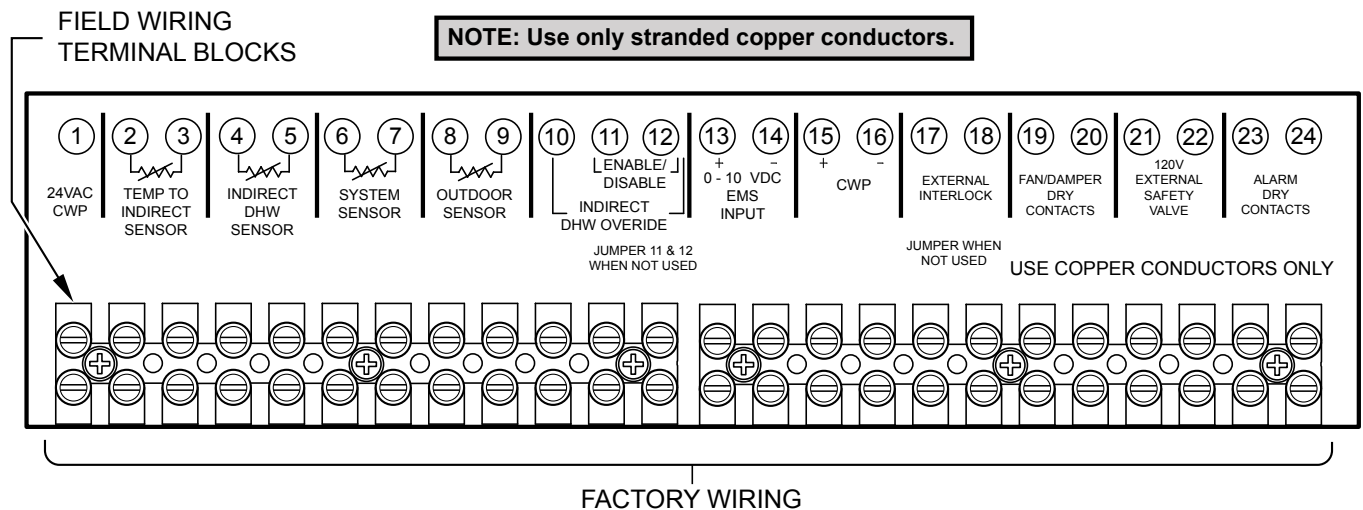

Figure 29. Low-Voltage Wiring
Field wiring connections such as sensors, interlocks, enable/disable and alarm contacts are made at the low-voltage terminal strip at the front of the heater as shown in **Figure 29**.
Connect the Enable/Disable (terminals 11 and 12) wiring to the field wiring terminals as shown in **Figure 29**. Alternately, any dry contact closure (including a remote thermostat) across these terminals will enable the XTherm heater to run.
1. If using an Outdoor Sensor, connect the sensor wires to the terminals (8 and 9) marked OUTDOOR SENSOR. See **Figure 29**.
2. To enable this remote control function, set DIP switch 5 to the UP position on the PIM. DIP switch 5 Toggles between an EMS (UP) signal or a demand signal from the VERSA (DOWN).
3. DIP switch 2 on the PIM toggles between a Direct Drive (UP) input and a Target Temperature (DOWN) setpoint.
5. Connect an Energy Management system or other auxiliary control signal to the terminals marked 0-10V (+/-) on the field wiring terminals. See Figure 29. Caution should be used to ensure that the +0-10V connection does not create a short to ground.
2. Connect the system supply sensor to terminals 6 and 7 on the field wiring strip located on the Master heater. See **Figure 29**.
3. Connect the Outdoor sensor (if used) to terminals 8 and 9 on the field wiring strip located on the Master heater. See **Figure 29**.
4. Connect the Enable/Disable wiring to terminals 11 and 12 on the field wiring strip located on the Master heater. This connection must be provided through dry contacts closure. See **Figure 29**. Applying 24VAC to these terminals will result in blowing the fuse on PIM.
An alarm annunciator or light may be connected to the alarm contacts on the field wiring terminal strip. The Alarm Contacts are 3A rated dry contacts on a normally-open relay that close during fault or lockout conditions, and the maximum voltage across the contacts is 30 VAC or 30 VDC. See **Figure 29**.